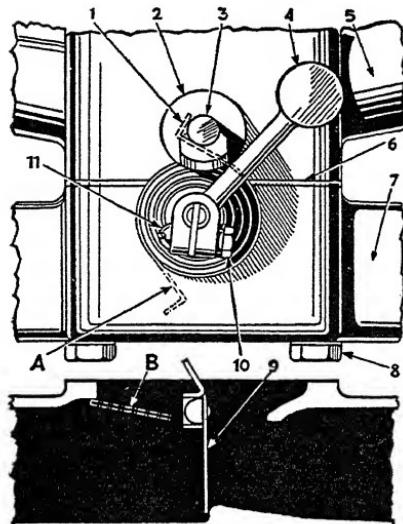

Fig. 93. Automatic Manifold Heat Control Valve and Thermostat (DeLuxe, PE Model)
**Manifold Heat Control.** The exhaust manifold on the DeLuxe "PE" Model is equipped with an automatic heat control, Fig. 93, which regulates the amount of heat by-passed around the inlet manifold heater body. The operation of the heat control on the DeLuxe "PE" Model is fully automatic and no adjustments are required. The heater valve plate *9*, valve plate shaft, and bushings are made of special metals which will not corrode, thereby eliminating the possibility of the valve sticking. An occasional check should be made to insure that the valve is free and is not restricted in its operation.
heat control shaft in the position illustrated at *A*, Fig. 93, and then turned 200 degrees and the end of the thermostat *1* placed under the elbow *3*. If the thermostat installation is correctly made, the heat control counterweight arm *4* will be back against its stop *2*, as shown in the illustration, when the manifold is cool.